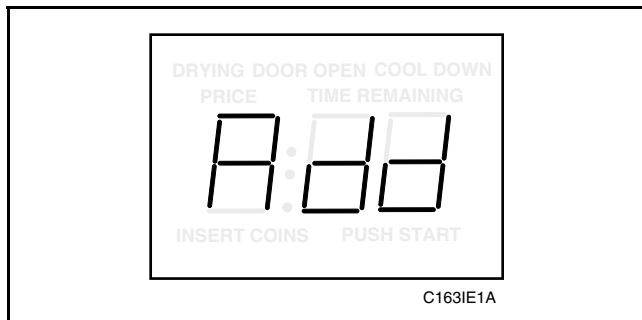

Figure 59
- Press the LOW TEMP (+) pad or the NO HEAT (-) pad to scroll through the programmable options until “Add” appears in the VFD, *Figure 59*.